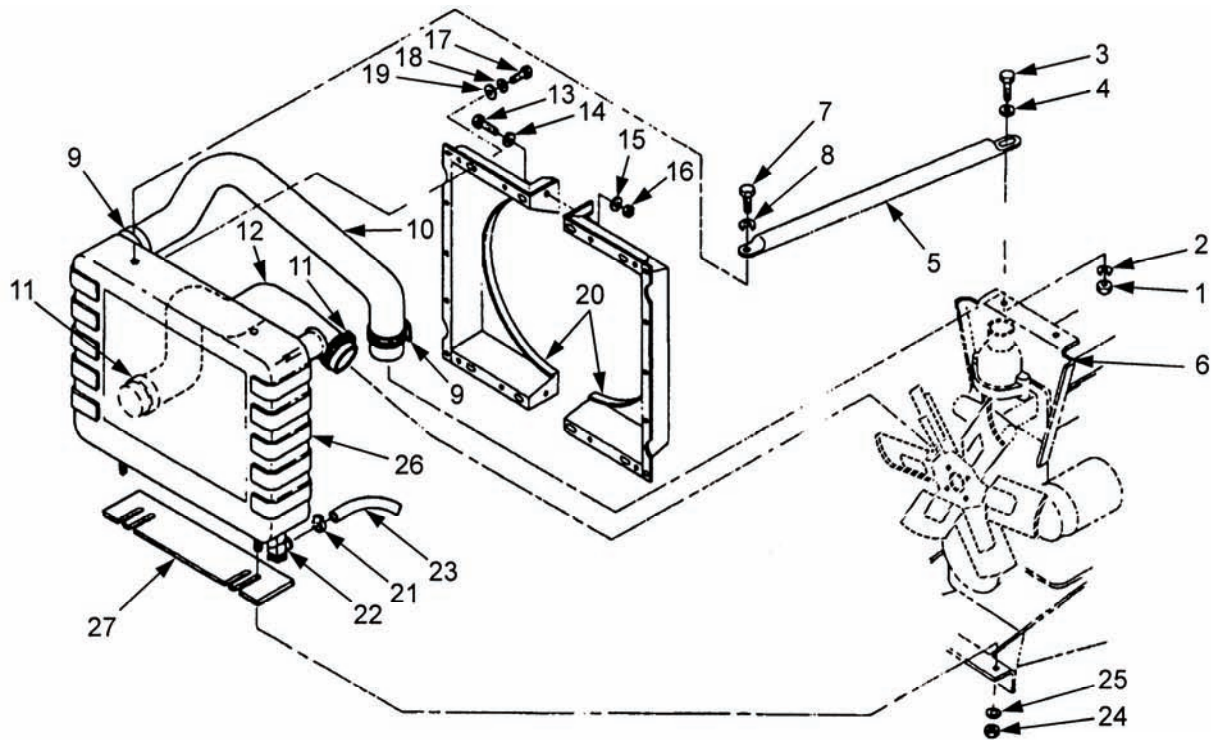

Figure 5-15. Radiator.
- a. Remove two nuts (1, Figure 5-15), lock washers (2), bolts (3), and washers (4) securing support rods (5) to engine lifting bracket (6). Discard lock washers (2).
- b. Remove two bolts (7), lock washers (8), and support rods (5). Discard lock washers (8).
- c. Loosen two clamps (9) and remove hose (10).
- d. Loosen two clamps (11) and remove disconnect hose (12).
- e. Remove two bolts (13), washers (14), lock washers (15), and nuts (16). Discard lock washers (15).
- f. Remove eight bolts (17), washers (18), and lock washers (19). Lean shroud halves (20) back against radiator (26). Discard lock washers (19).
- g. Remove clamp (21) at radiator drain valve (22) and tag and disconnect hose (23).
- h. Remove two nuts (24) and washers (25) securing radiator (26). With aid of an assistant, remove radiator (26) and shims (27).